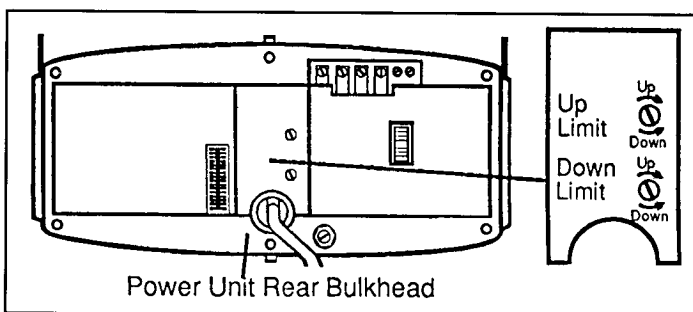

Figure 26
Step 51: To increase the "up" distance, turn the slotted "Up Limit" screw in the clockwise direction (see Figure 26). Note that each turn is equal to approximately one inch of door travel. Then estimate the number of turns required.
Step 59: If the door stops after encountering the obstruction, it is an indication that the down limit needs to be adjusted. Turn the down limit screw one or two turns in the down direction (see Figure 26). Keep in mind that the door arm should not pass the vertical position.